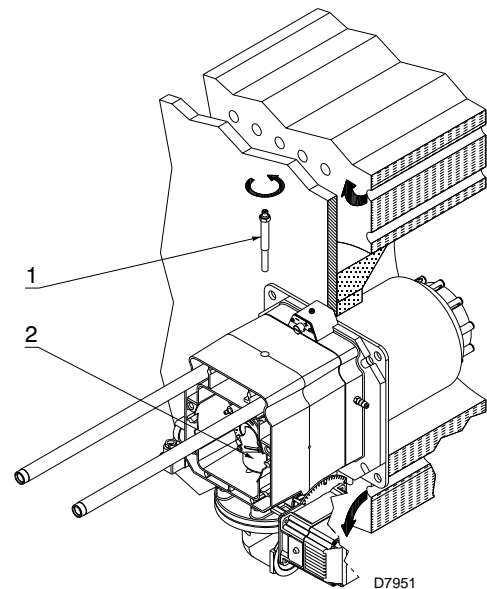

Fig. 12
- remove the screw 1)(Fig. 12);
At this point of the installation, the combustion head is fixed to the boiler as shown in Fig. 12. It is therefore especially easy to adjust, and this adjustment depends only on the maximum output of the burner.